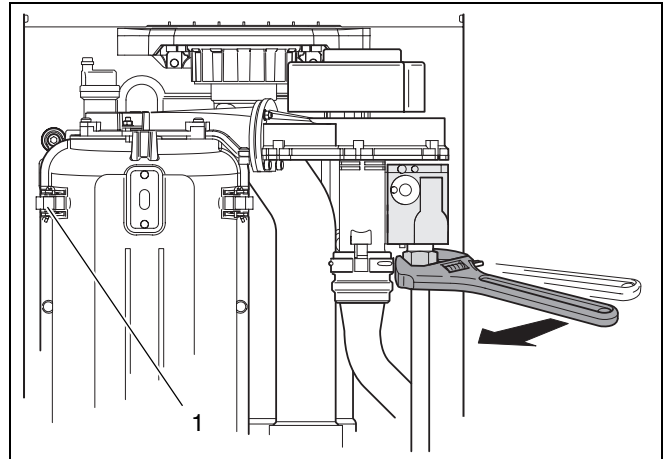

fig. 59 Loosen gas connection
- Loosen the gas connection between the gas supply and the gas air unit (fig. 59).
- Now the front cover of the heat exchanger can be removed by opening the latches (fig. 59, item 1).